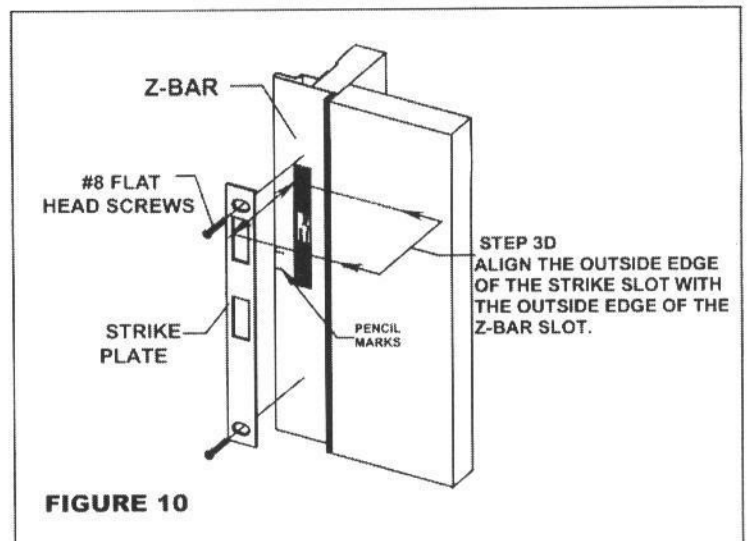

FIGURE 10
C. Position the strike plate on the latch side z-bar. Align the strike vertically by centering the bottom hole in the strike plate with the marks previously made on the z-bar. **See Fig. 10.**